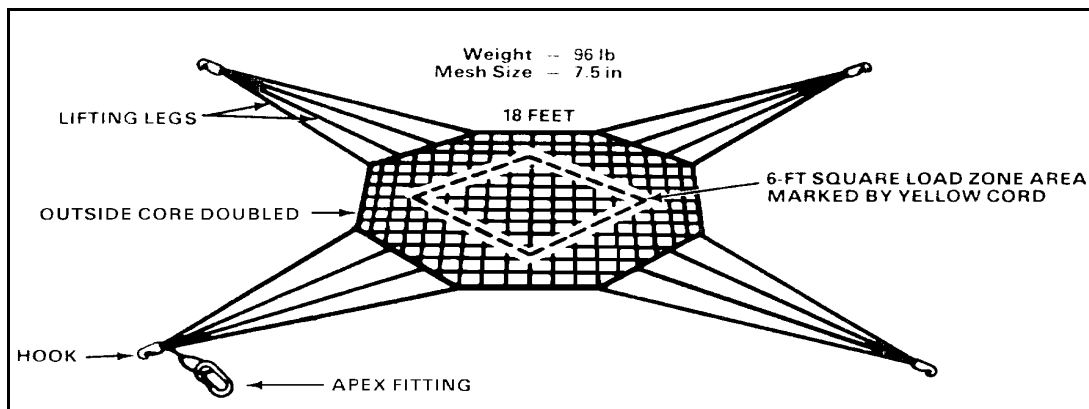

Figure 18-3. The 10,000-pound cargo net
•The 10,000-pound capacity net. The 10,000-pound capacity net as shown in Figure 18-3 is also made of nylon mesh cord with webbing lifting loops. The net has a maximum cubic capacity of 380 cubic feet, weighs 96 pounds, and comes in a canvas cover. The net is black nylon, octagon shaped, and measures 18 feet across the flat sides. A yellow cord outlines the load area in the center of the net. There are four sets of lifting legs made from 1 3/4-inch wide nylon webbing attached to the outside of the net. Each leg is 11 feet in length with a hook to attach to the apex.